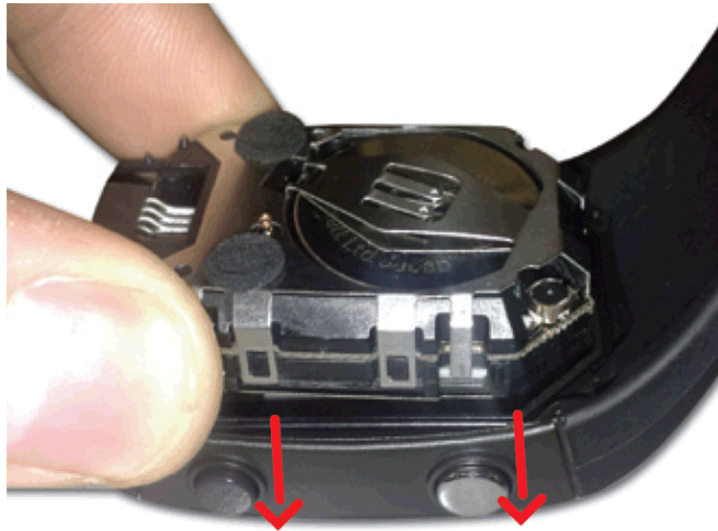

Figure 4-4. eZ430-Chronos Module Insertion Into Housing
2. Gently insert Chronos module into the housing. Insert it in parallel to the housing. Do not try to insert one side first (see Figure 4-4). Ensure that the small metal strips of the buttons on Chronos module slide over buttons of the housing (see Figure 4-5).